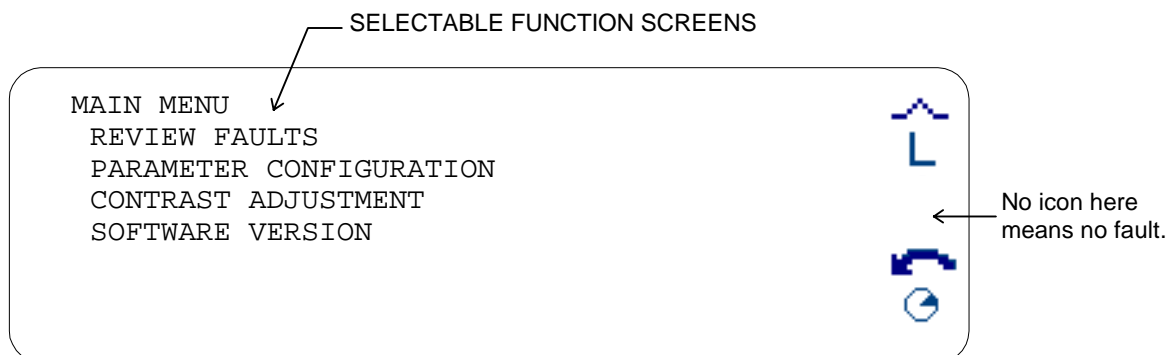

Figure 2-3. Sample of the Main Menu Screen Display
- The **Menu screen** lists and provides access to menu-based functions for adjusting parameters and resetting faults (see Figure 2-3).